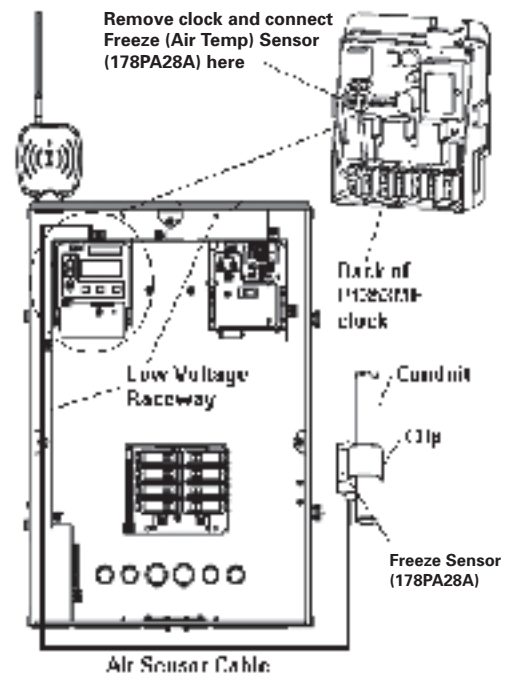

Figure 3-12
2. Run the wire to the Control Center through the low voltage raceway. Connect Freeze Sensor directly to the back of the three-circuit clock mechanism. (See Figure 3-12.) Refer to page 26 for connection information.